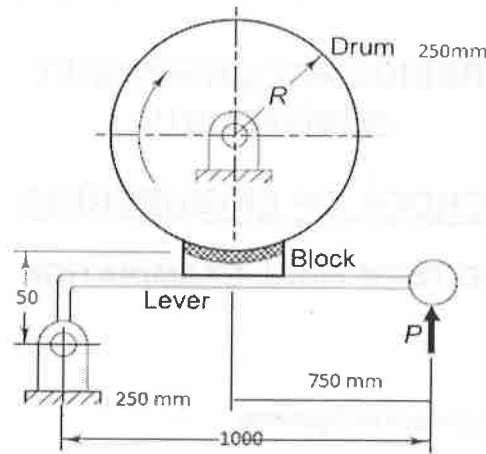

Figure : 1
6. In block brake shown in figure 1. Is to balance a torque of 500 N.m on a drum shaft at 1000 rpm assuming coefficient of friction between brake shoe and drum to be 0.25 and $2\theta < 60^\circ$. Determine (i) Tangential force on the shoe (ii) Normal force on shoe (iii) Force F applied to the brake for Clockwise and anti-clockwise rotation. (iv) The dimension 'c' required to make the brake self-locking assuming other dimensions remains the same. (v) Heat generated.